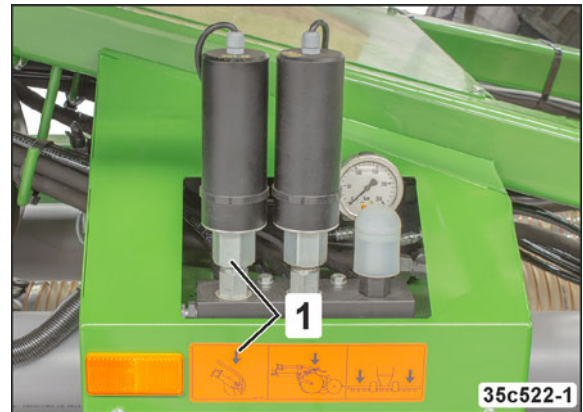

Fig. 112
- a setting motor (Fig. 112/1, optional), which is operated using the AMATRON 3 in the tractor cab.